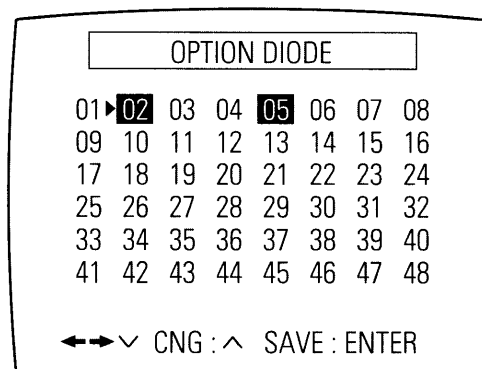

Fig. 5-17
- 2) Press the "MENU (OSP)" button on the remote control about 5 seconds then option setting display is appeared. (See Fig. 5-17)
- 4) If selecting the option number is completed, press the "CH/TRK (PROG.TV) \wedge " button of remote control. (If "CH/TRK (PROG.TV) \wedge " button is pressed, the selected number is changes reversed color. ; See Fig. 5-17)